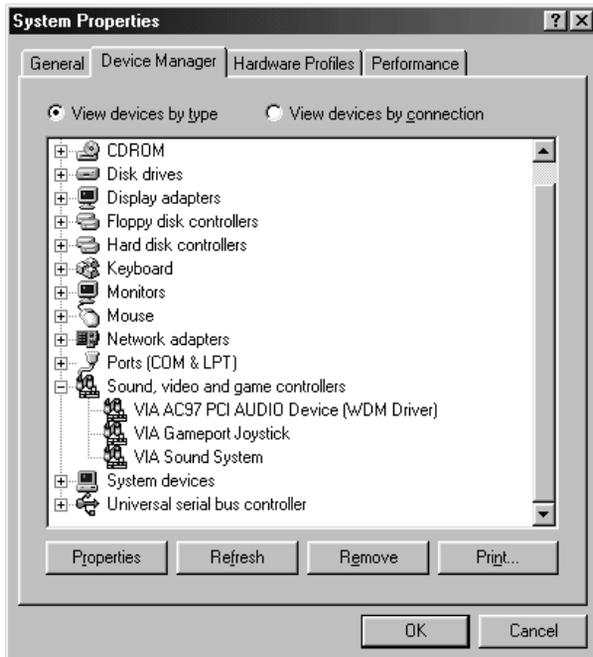

Figure 2
9. Re-key in the driver location to the "Copy files from:"(refer step 4) click "ok", the you will be complete to install driver. Remember to restart your computer to take it into effect, show in figure 2 below.